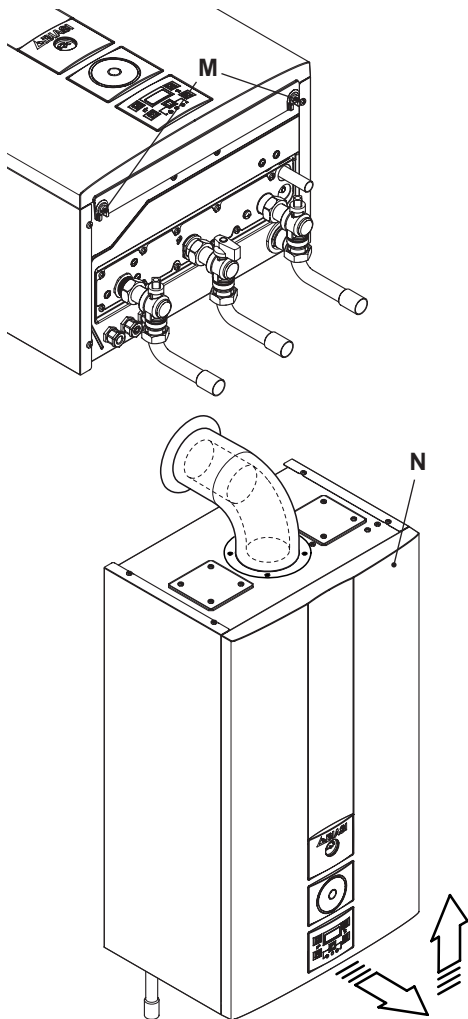

Fig. 6.15
- Unscrew screws "M" and remove the front panel "N" by pulling it and pushing it towards the top so that it is freed from the top housing Fig. 6.15.